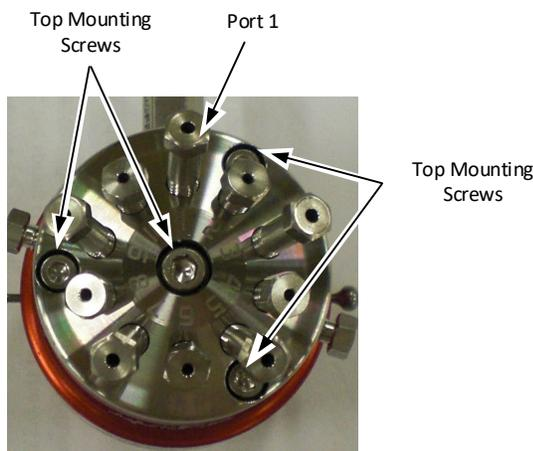

Fig. 7.17. Four-Screw Cap, Showing Port 1 Orientation
1. Remove the three mounting screws around the outside of the top of the valve (see Figure 7.17).
13. Install the cap over the alignment pins with port number 1 opposite the air inlet (see Figure 7.17).